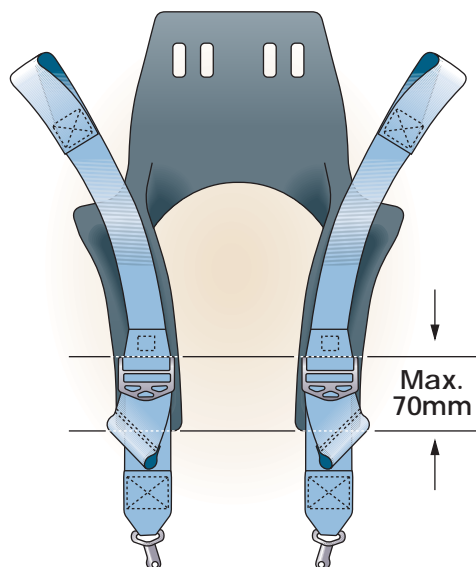

Figure 1. Correct position of shoulder strap length adjustment device on HANS® yoke
**2.2** The length adjustment device of the shoulder belt shall be positioned on the HANS® yoke with the upper edge not more than 70mm from the lower edge of the HANS® yoke as shown in Figure 1 (this does not apply in the case of the double shoulder belt system described in point 2.5).